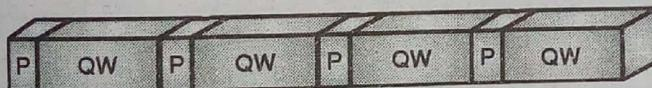

Fig. 15.6 : Line structure in code cache
5. Each cache line holds four quadwords of information. Accesses made to memory, caused by code cache misses, always result in the transfer of four quadwords from memory to cache. Each quadword is associated with a parity bit for error checking as shown in the Fig. 15.6.